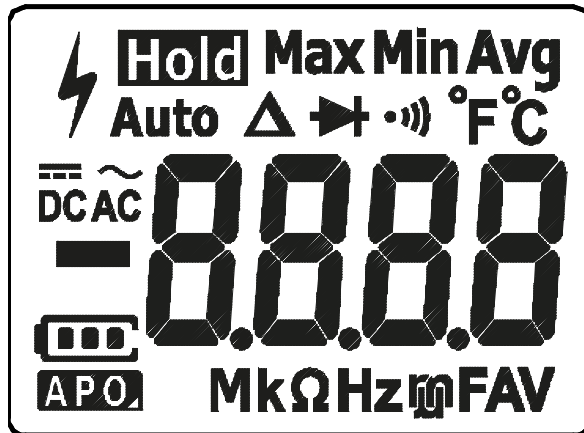

Figure 1-1 LCD display screen
- Figure 1-1 LCD display screen 6
Press and hold the  key while turning the rotary switch from the **OFF** position to any other position (**ON**). Check that all the annunciators are displayed in the LCD. Compare the display with the example shown in Figure 1-1. All annunciators are displayed in the LCD for 10 seconds.